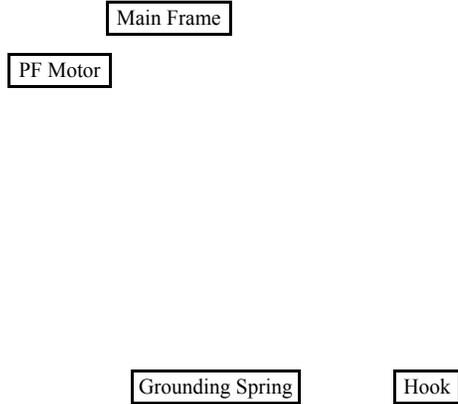

Figure 4-65. Installing the Grounding Spring (2)
- Be sure to install the Grounding Spring referring to Figure 4-64 and Figure 4-65.